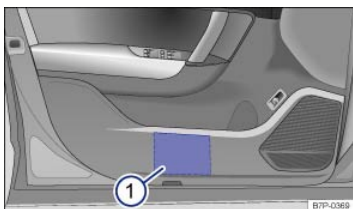

Fig. 114 In the driver door: Storage compartment.
There is a storage compartment in each vehicle door. ⇒ Fig. 114①.